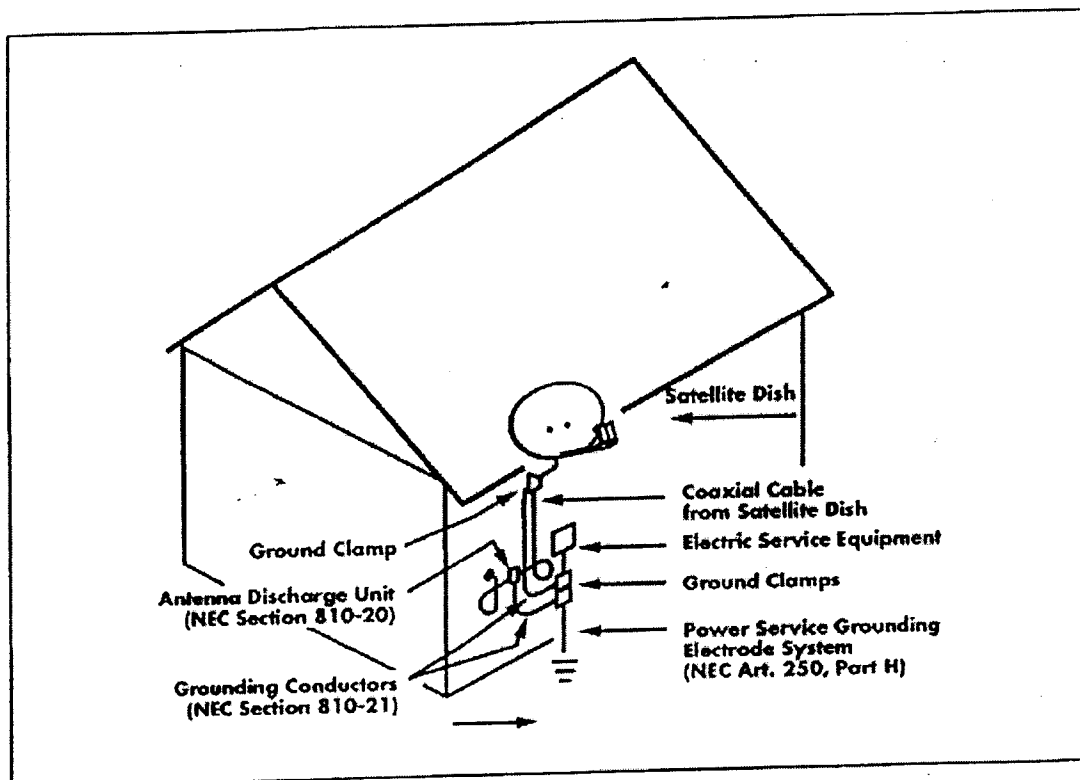

FIGURE 10
25. The Universal Mount and coaxial cables must be properly grounded to the building Power service ground per the latest revision of the National Electric Code. See Figure 10.